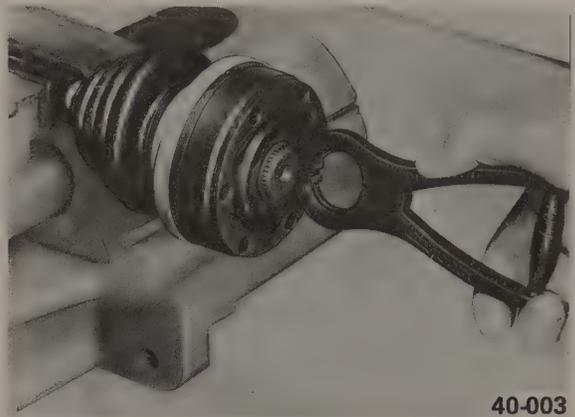

Fig. 5-7. Removing circlip which holds inner CV joint to axle shaft.
- Remove the circlip from the end of the axle shaft, as shown in Fig. 5-7.